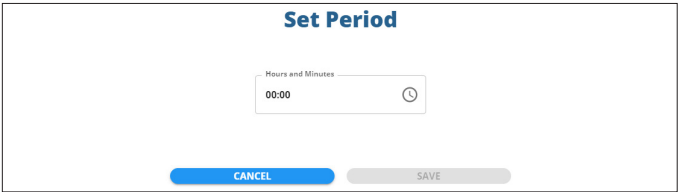

Fig. 96—Tap the numbers in the hours and minutes field to set the period.
1. Press the *Set Period* button to set the length of time in between well plate scans. A popup displays (Fig. 96). Enter into the field a four-digit number (HHMM) to set the hours and minutes or click on the clock icon to reveal a graphical helper (Fig. 97). Use the spinner to select the hours. You may select from 1 to 23 hours. The first 12 hours are on the outside of the spinner, and the inner spinner is used to set 13 – 23 hours. After you make that selection, the spinner displays minutes and you may use the dial to set the number of minutes in the period (Fig. 98). Then, press the *SAVE* button to save the changes.